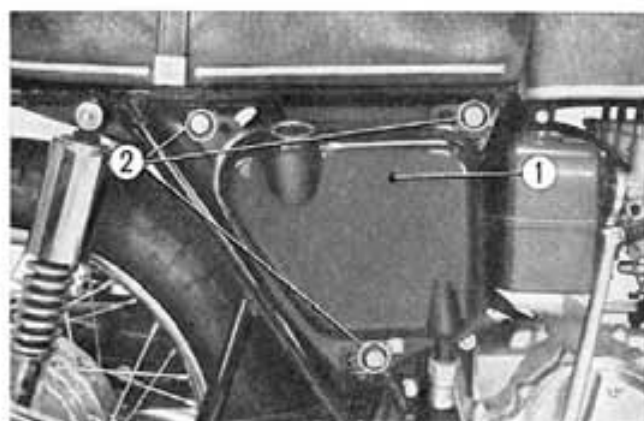

Fig. 15-10 ① Oil tank
4. Remove the three oil tank mounting bolts and dismount the oil tank. (Fig. 15-10)